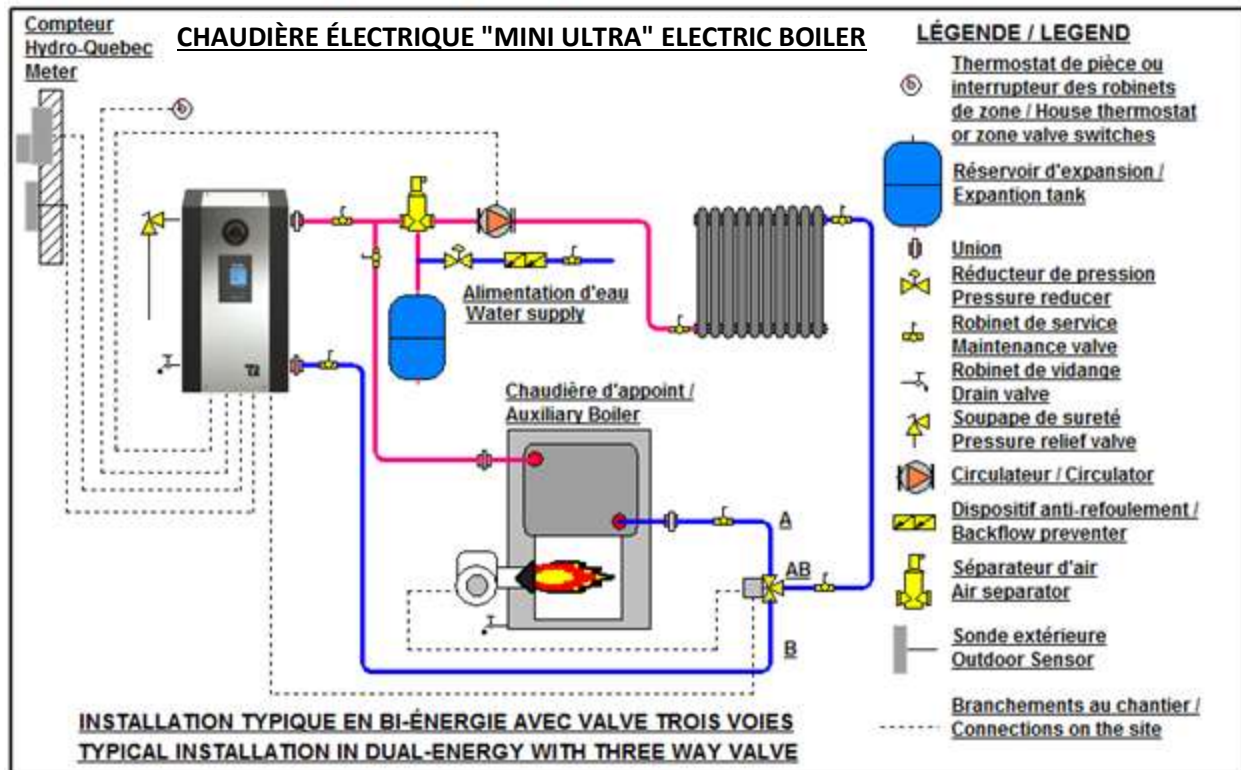

Figure 7 : Typical installation for dual-energy with three-way valve
N.B.: Make sure to select the appropriate port A, B and AB when making the connection of the piping (see fig.7)
- **If the piping installation is made as shown on fig.7 without a three-way valve:**